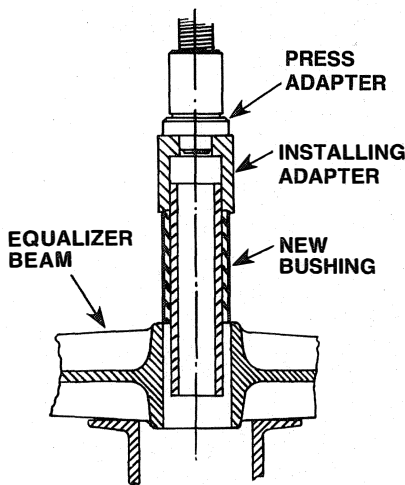

FIGURE 2
2. Position the proper Installing Adapter (Item 3 for the 34,000 lb. axle or Item 5 for the 38,000 and 44,000 lb. axle) over the new bushing as shown in Figure 2. Place the Press Adapter (Item 6) on top of the installing adapter.